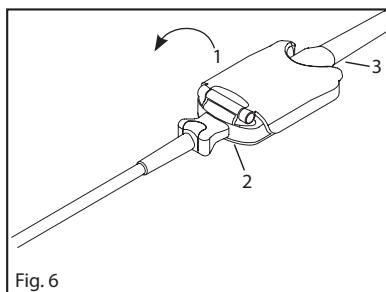
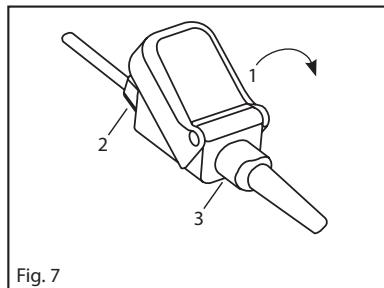

Fig. 6
Fig. 7
1. Refer to **Fig. 6 M-LNCS**, **Fig. 7 LNCS**. Lift the protective cover (1) to gain access to the sensor connector (2).
2. Pull firmly on the sensor connector (2) to remove it from the patient cable (3).